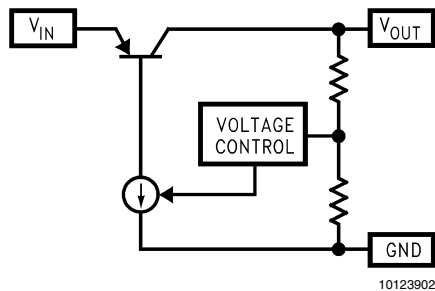
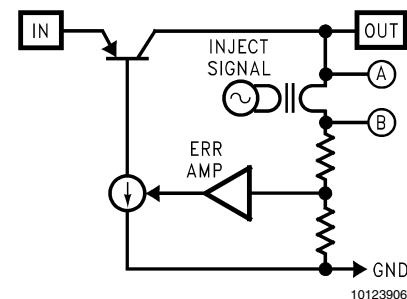

FIGURE 2. PNP LDO REGULATOR
FIGURE 6. LOOP GAIN EXAMPLE
In the low-dropout (LDO) regulator, the pass transistor is a single PNP transistor (*Figure 2*). The big advantage of the LDO is that the PNP pass transistor can maintain output regulation with very little voltage drop across it:
Every closed-loop system has a characteristic called **loop gain**. In this analysis of voltage regulators, loop gain will be defined as the magnitude of the voltage gain that the feedback signal experiences as it travels through the loop. The block diagram of the LDO in *Figure 2* will be redrawn to illustrate this concept (*Figure 6*).
**Feedback** is used in all voltage regulators to hold the output voltage constant. The output voltage is sampled through a resistive divider (*Figure 6*), and that signal is fed back to one
The PNP transistor in an LDO regulator (*Figure 2*) is connected in a configuration called **common emitter**, which has a higher output impedance than the common collector configuration in the NPN regulator. This adds an additional low-frequency pole **whose frequency is dependent both on load resistance and output capacitance**. The frequency of this pole (which will be designated  $P_L$  for **load pole**) is found from: